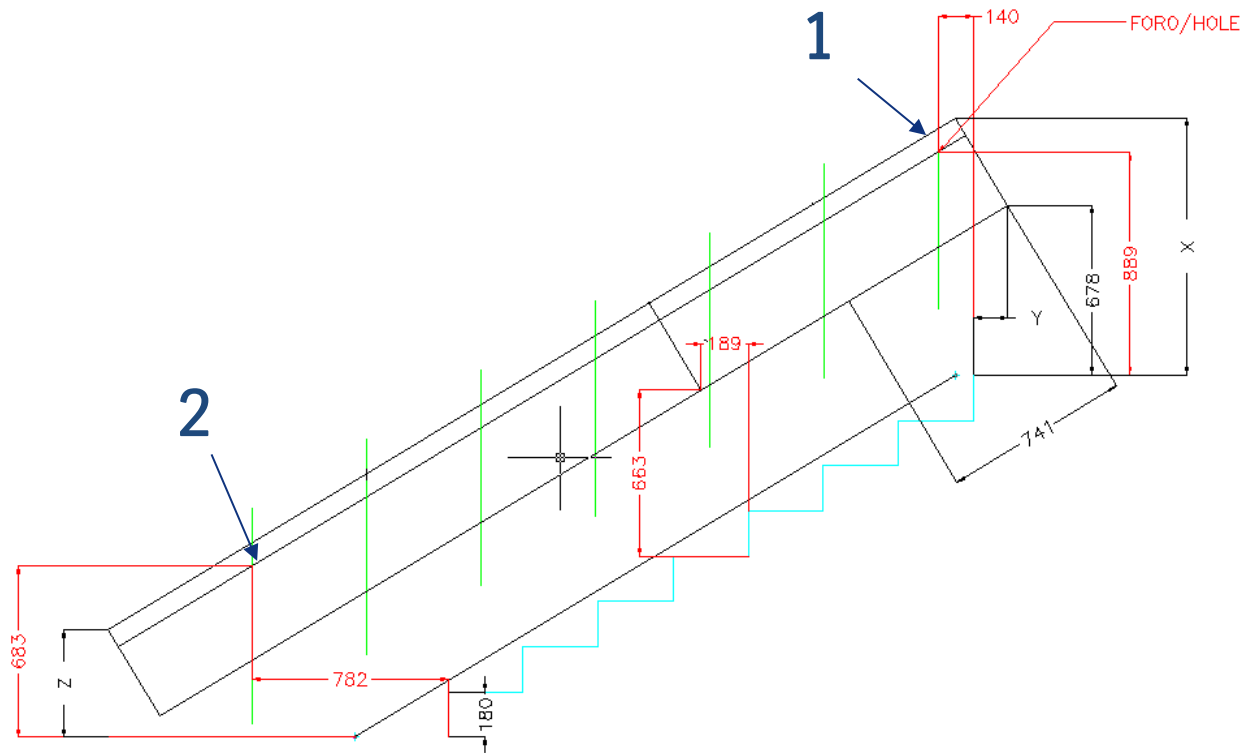

Fig. 10 – Guide wall mounting assembly diagram
The installation-ready guide for wall mounting is different from the others because it is pre-bored along its entire length. The holes are 19 mm. On the installation drawing the position of the preparation holes for installation of the guide and the control auxiliary quotas are indicated (Fig. 10, X,Y,Z etc. quotas). Instructions:
- Drill a hole high on the wall (**Fig. 10 detail “1”**), insert the anchor plug, take the piece of guide and anchor it to the wall only using this hole. This way the guide is hinged around one point and can freely rotate.
- Place the guide on the step (guide in several parts) or on the floor (single part guide), drill the second hole (**Fig. 10 detail “2”**), lift the guide (rotating it around the fixed point) until the hole in the guide lines up with the one just drilled in the wall, insert the anchor plug and fasten the guide. The remaining holes in the wall must be drilled using the guide as a template.